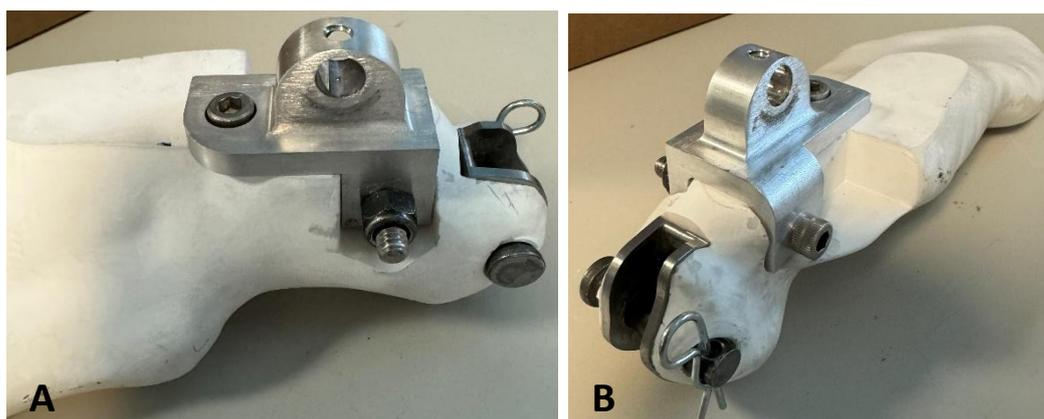

Figure S3: (A) lateral and (B) posterior/medial views of foot assembly.
3. Secure the heel insert into the heel and secure with the two 1/4"-20 bolts. Insert the clevis and cotter pin into the calcaneus of the composite foot. (See Figure S3) 70